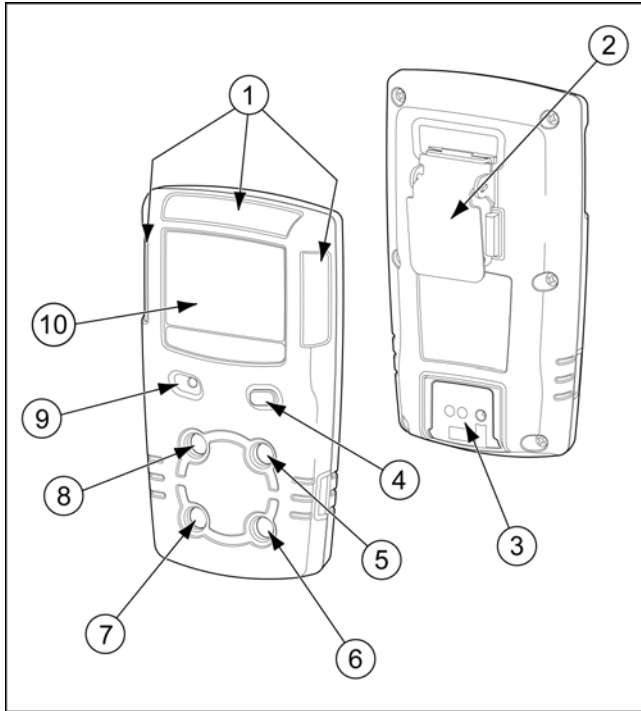

Figure 1. Parts of the GasAlertMicroClip
- Figure 1 and Table 4 describes the detector's components.